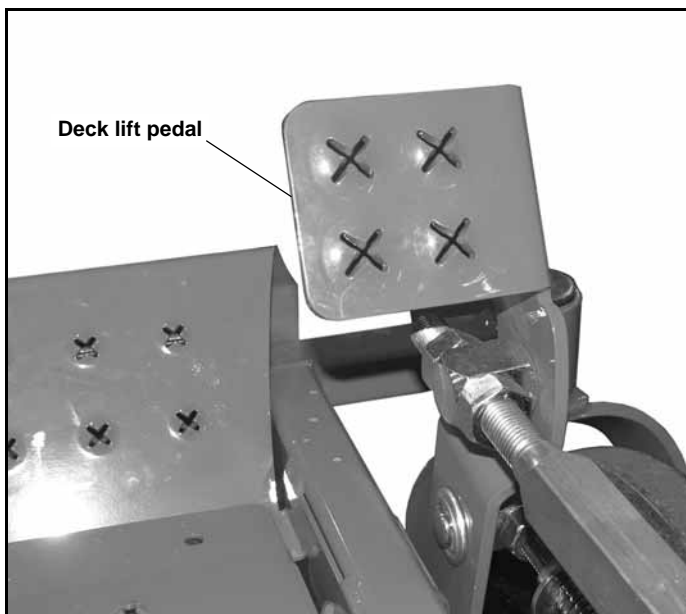

Figure 3-4
B. Deck lift pedal (Figure 3-4) — the deck lift pedal is used to raise or lower the deck. Push on the pedal to raise the deck and then place the deck height locking pin into the desired cutting height hole.